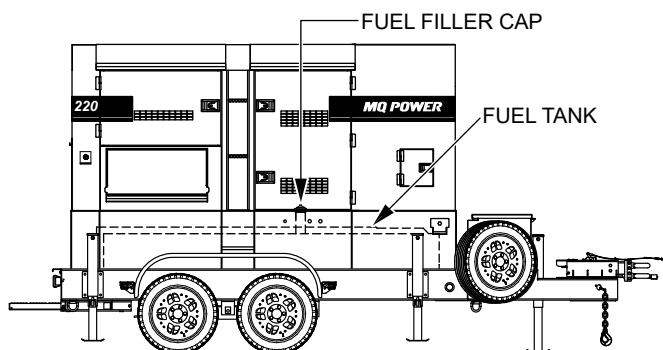

Figure 27. Fuel Tank
**ALWAYS** fill the **fuel tank** (Figure 27) with clean, fresh, **#2 diesel fuel**. Pay attention to the fuel tank capacity when replenishing fuel. **DO NOT** fill the fuel tank beyond its capacity.
Close the **fuel filler cap** (Figure 27) tightly after filling. Handle fuel in a safety container. If the container does not have a spout, use a funnel. Wipe up any spilled fuel **immediately**.